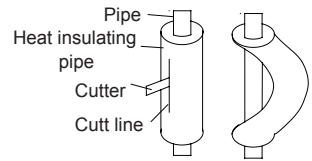

Fig.4.10
- (2). Do not bend the pipes in an angle more than 90°.
- (3). When pipes are repeatedly bent or stretched, the material will harden, making it difficult to bend or stretch them any more. Do not bend or stretch the pipes more than three times.
- (4). When bending the pipe, do not bend it as is. The pipe will be collapsed. In this case, cut the heat insulating pipe with a sharp cutter as shown in Fig.4.10, and bend it after exposing the pipe. After bending the pipe as you want, be sure to put the heat insulating pipe back on the pipe, and secure it with tape.